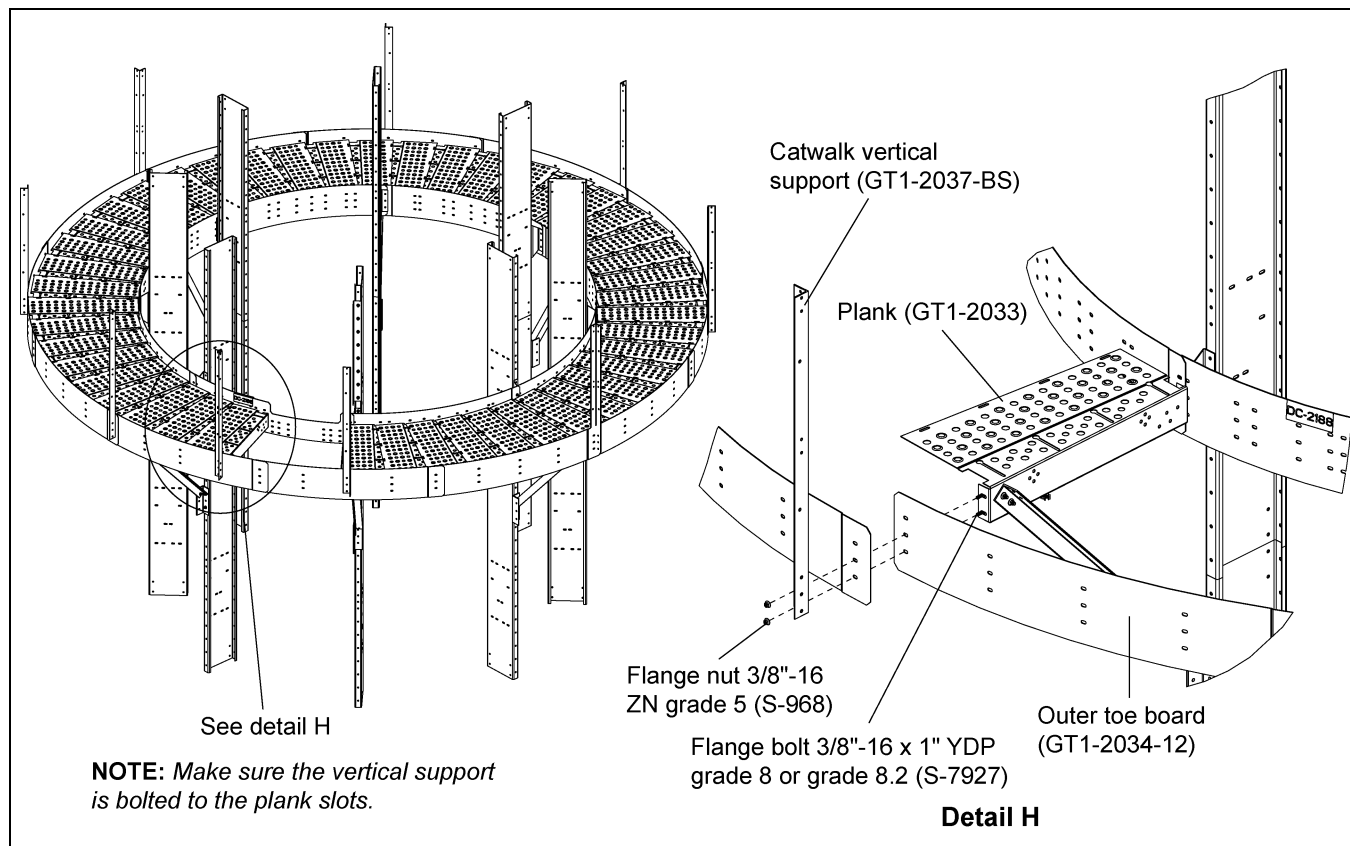
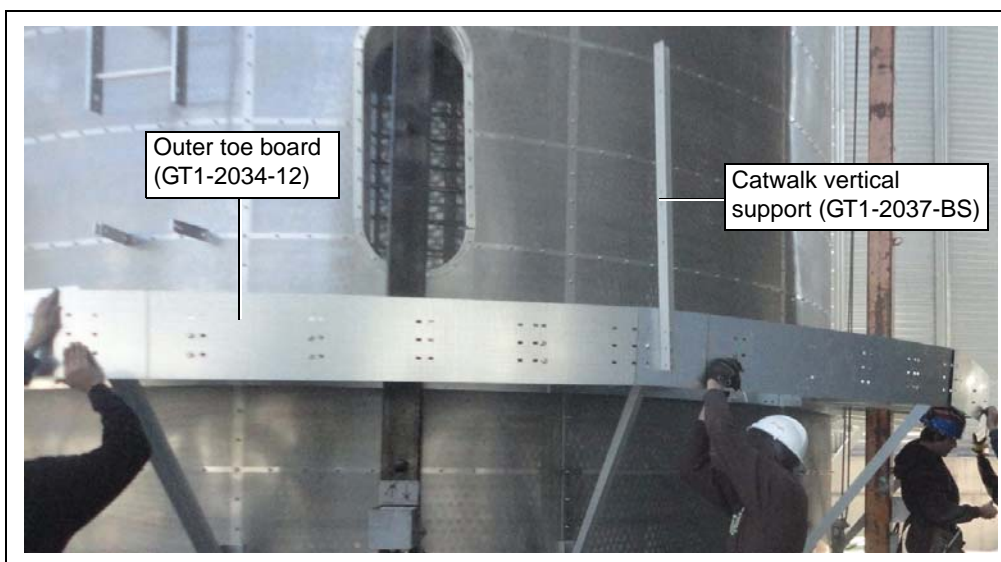

Figure 4R
Figure 4S
1. Install all the outer toe boards (GT1-2034-12) to the planks (GT1-2033). (See Figure 4R.)
2. When installing the outer toe board with planks, install the catwalk vertical support (GT1-2037-BS) simultaneously at proper locations using 3/8"-16 x 1" YDP grade 8 or grade 8.2 bolts (S-7927) and 3/8"-16 ZN grade 5 nuts (S-968). (See Figure 4R and Figure 4S.)